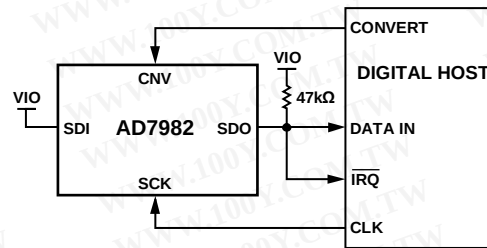
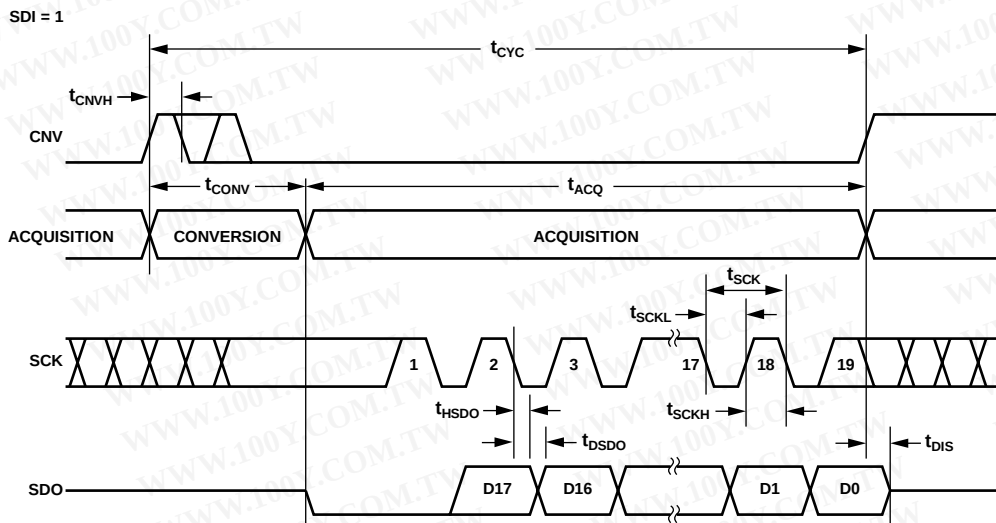
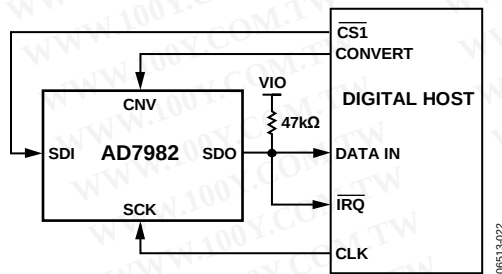
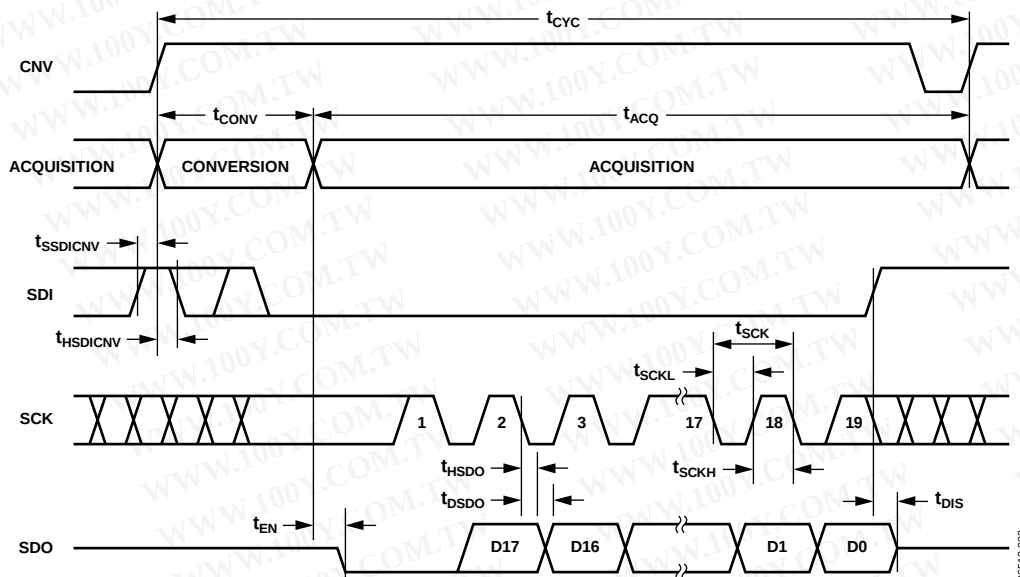

Figure 31. $\overline{\text{CS}}$ Mode, 3-Wire with Busy Indicator Connection Diagram (SDI High)
Figure 32. $\overline{\text{CS}}$ Mode, 3-Wire with Busy Indicator Serial Interface Timing (SDI High)
Figure 35. $\overline{\text{CS}}$ Mode, 4-Wire with Busy Indicator Connection Diagram
Figure 36. $\overline{\text{CS}}$ Mode, 4-Wire with Busy Indicator Serial Interface Timing
- In the $\overline{CS}$ mode if CNV or SDI is low when the ADC conversion ends (see Figure 32 and Figure 36).
The connection diagram is shown in Figure 31, and the corresponding timing is given in Figure 32.
The connection diagram is shown in Figure 35, and the corresponding timing is given in Figure 36.